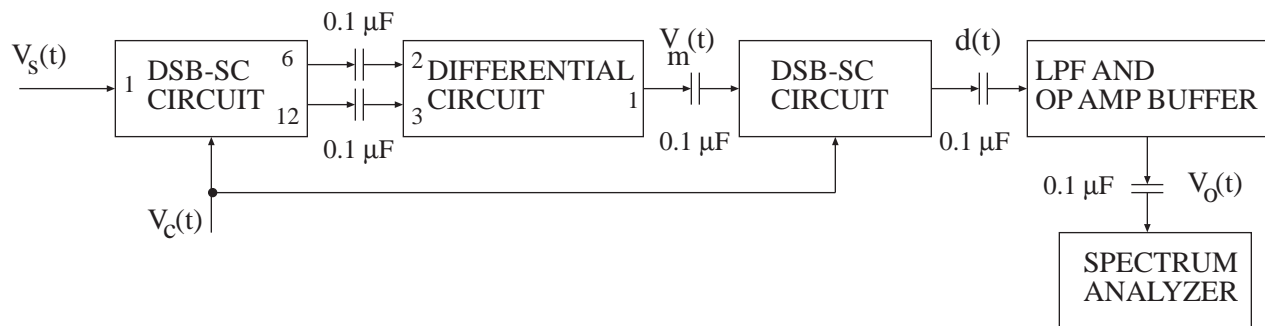

Figure 3: Synchronous DSB-SC demodulator.
- (b) Design a DSB-SC demodulator based on the circuit in Figure 3 to retrieve the message from the DSB-SC modulator.